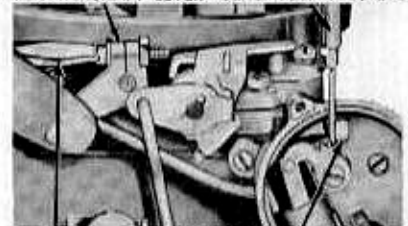

FIG. 47—Choke and Countershaft Linkage Adjustment
3. Place a 0.086-inch gauge between the choke lever and stop in the choke housing (Fig. 47). With the gauge in place, take the slack out of the linkage by pressing the countershaft lever toward the closed choke position. Hold in place and tighten the clamp screw.